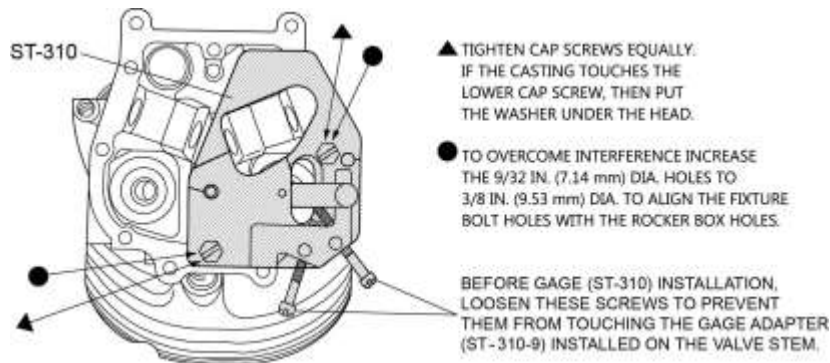

Figure 6
- (10) Loosen the screws identified in Figure 6 to prevent the screws from touching the Gage Adapter (ST-310-9) when installed on the valve stem.
- (11) Install the Gage (ST-310) on the valve on the cylinder head as shown in Figure 6.
- (12) Tighten the cap screws (identified in Figure 6) equally. If the casting touches the lower cap screw, put the washer under the head.
- (13) Measure stem movements by moving the valve stem along the valve guide wear line (inside diameter of the valve guide, parallel to the centerline of the valve rocker arm).
- (22) Move the piston to near its top end of travel.
- (23) Remove the Gage Adapter (ST-310-9) from the valve stem.
- (24) Loosen each cap screw in the Gage (ST-310) (Figure 6) in small equal increments to decrease pressure on the valve spring slowly and equally.
- (25) Remove the Gage (ST-310) from the cylinder.
- (26) Repeat this exhaust valve and guide inspection for all cylinders.
- (27) Record all of the results in the 1000-Hour Inspection Checklist for TEO-540-A1A engines in Chapter 05-20.